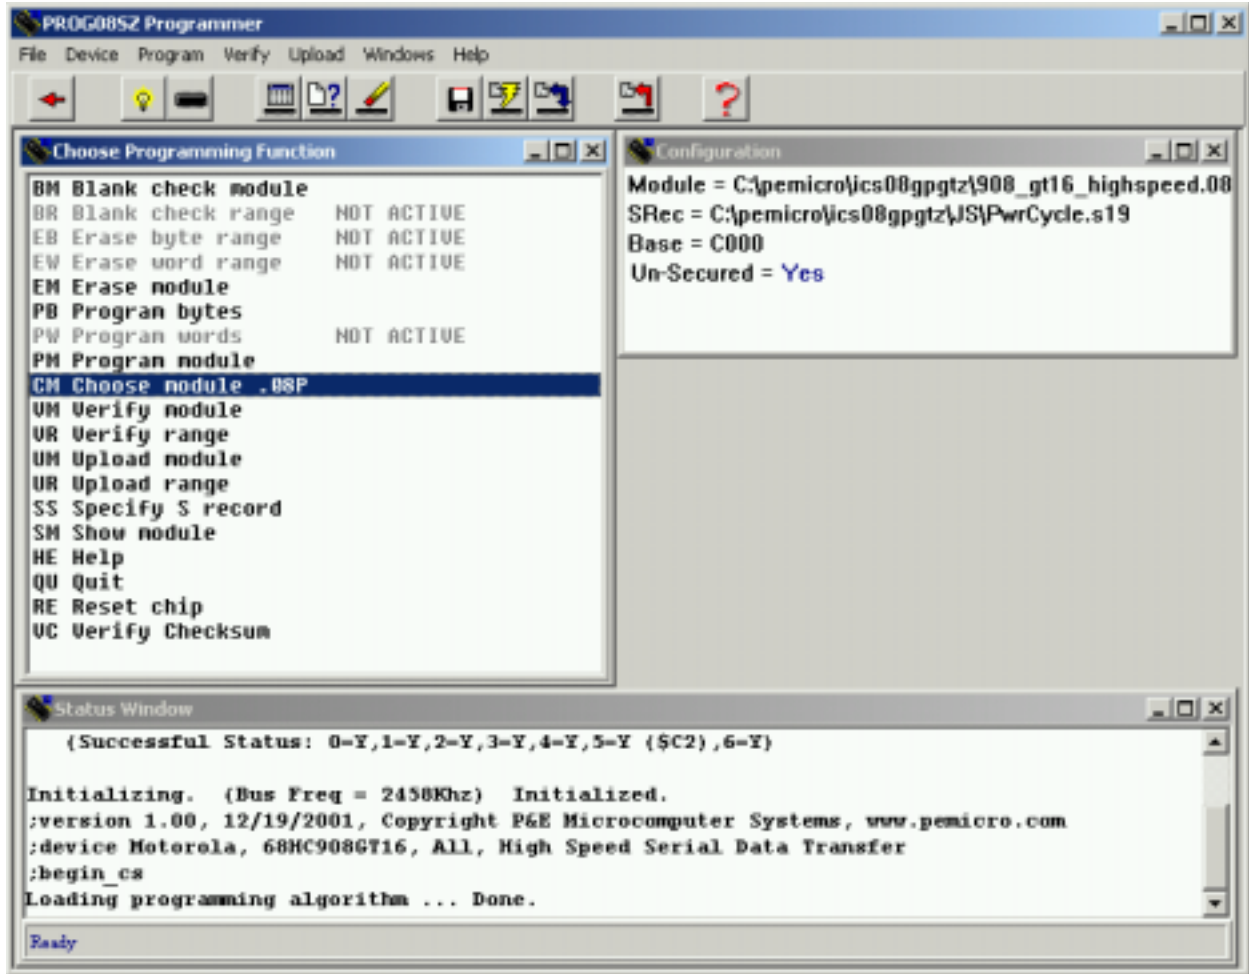

Figure 12. P&E's PROG08SZ Programmer Window
11. Select appropriate algorithm for the part (908\_gt16\_highspeed.08p in Figure 12).
12. Double-click on Erase module (see Figure 12). (Flash cannot be programmed unless first erased.)